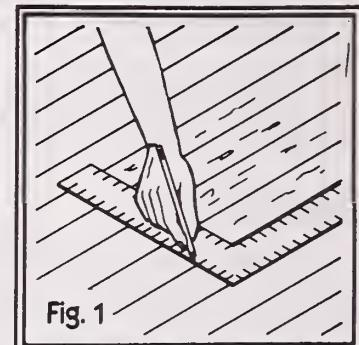
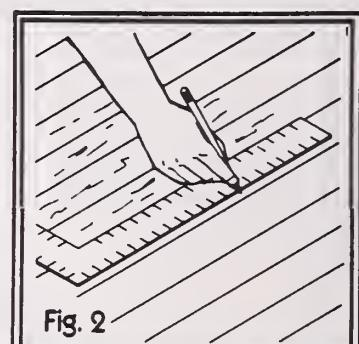
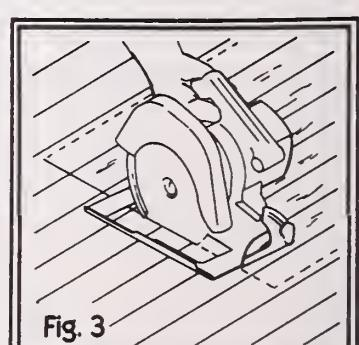

Fig. 1
Fig. 2
Fig. 3
3. Mark the area to be repaired, using the square and a pencil (fig. 1). This mark should be approximately $\frac{1}{2}$ inch from the crack to avoid hitting the nails (blind-nailed) with the saw blades (fig. 2). Carefully adjust the blade of the portable saw to the thickness of the flooring to avoid cutting the subflooring. Place the saw at the center of the end mark, slightly tilted, with the blade resting on the flooring (fig. 3). Make the cut to the corner of the marked area. Cut the opposite end the same way.